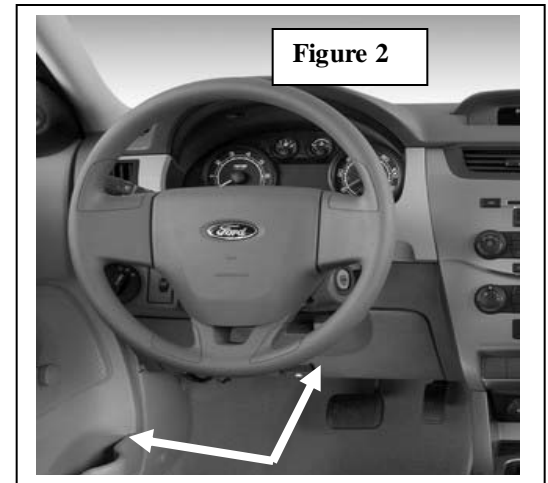

Figure 2
- 2. Remove the driver side lower dash and kick panels. Remove the steering wheel shroud. **Figure 2**